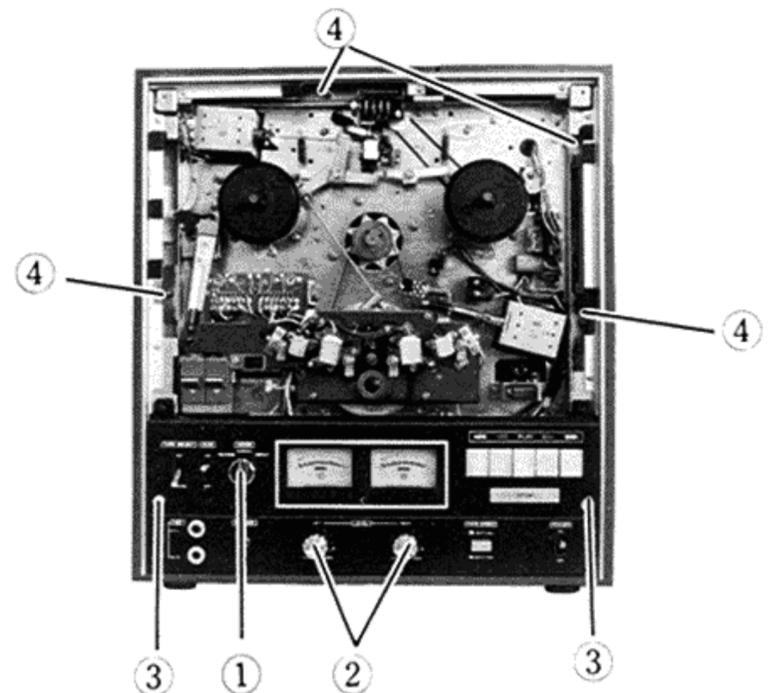

Fig. 9
7. Removing the control panel (Fig. 9)
8. Removing the set from the cabinet (Fig. 9)